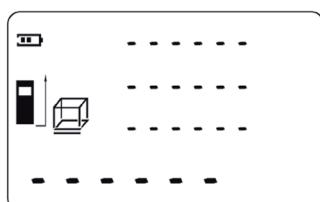

Fig. 11
1. Press the Mode button (4) to select the volume measurement mode. The flashing line in the symbol indicates the length to be measured (fig. 11).